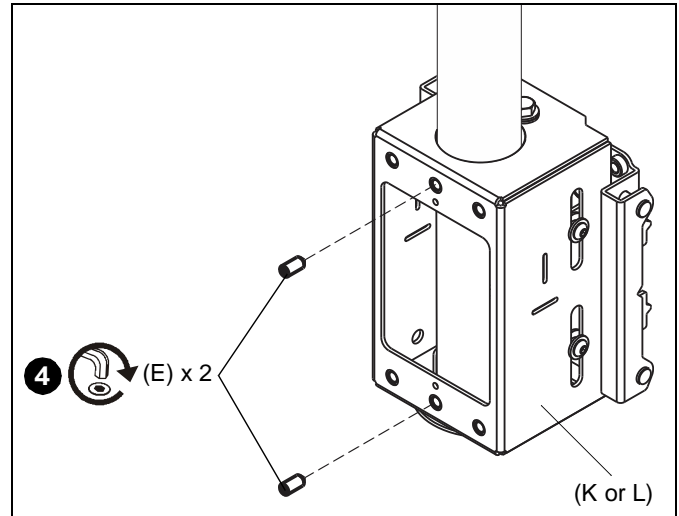

Figure 2
4. Tighten two 5/16" x 3/4" set screws (E) against column. (See Figure 2)